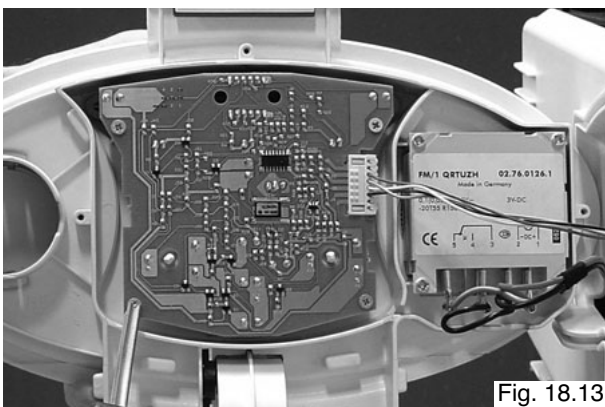

Fig. 18.13
3. Open the electrical box as in step **18.3.1** and remove the plastic cover as in step **18.3.2** (see Fig. 18.13) ;